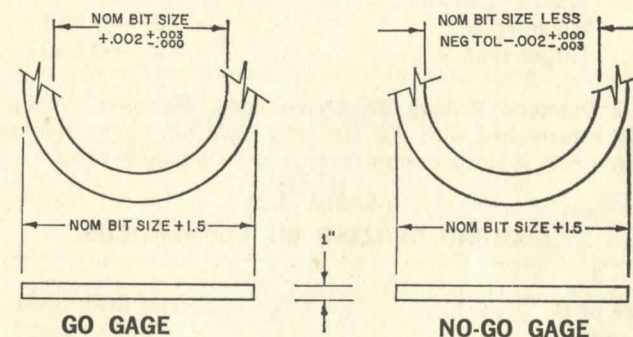

FIG. 8.1
- a. **Gage Specification.** "Go" and "No Go" gages should be fabricated as shown in Fig. 8.1 and as described below: